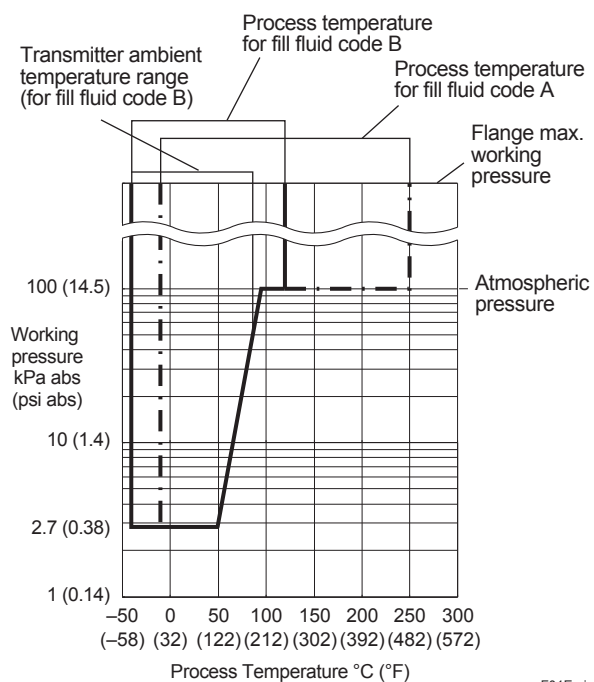

Figure 1. Working Pressure and Process Temperature (Fill fluid: silicone oil for general and high temperature use)
For atmospheric pressure or below, see figure 1.
- *1: See figure 1 'Working Pressure and Process Temperature.'